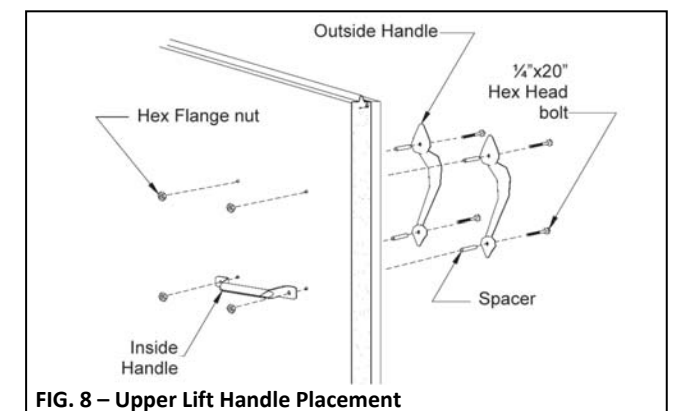

FIG. 8 – Upper Lift Handle Placement
**Step 10:** Attach each vertical ornamental handle (outside) and one steel horizontal roll grip handle (inside) to the door using two 1/4" black painted hex head bolts, and two 1/4" hex nuts. Use a set of hex head bolts and hex nuts to fasten the vertical handles to the door through the remaining holes. The inside handle may be matched with either set of holes so long as it is no closer than 4" to the top or bottom of the section (See Fig. 8).